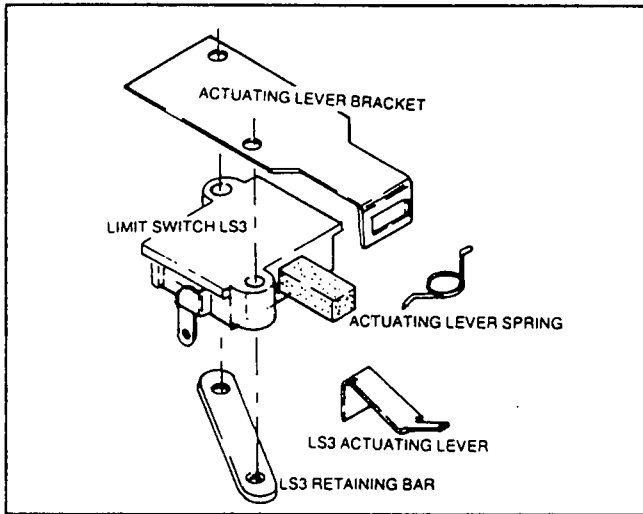

Figure 4. Limit Switch LS3 Actuating Parts
3. Limit switch LS3 is retained to the inner cover by two long screws with countersunk head (see Figure 4) and a retaining bar with threaded holes. Lift up on the cover slightly and remove the two long screws.